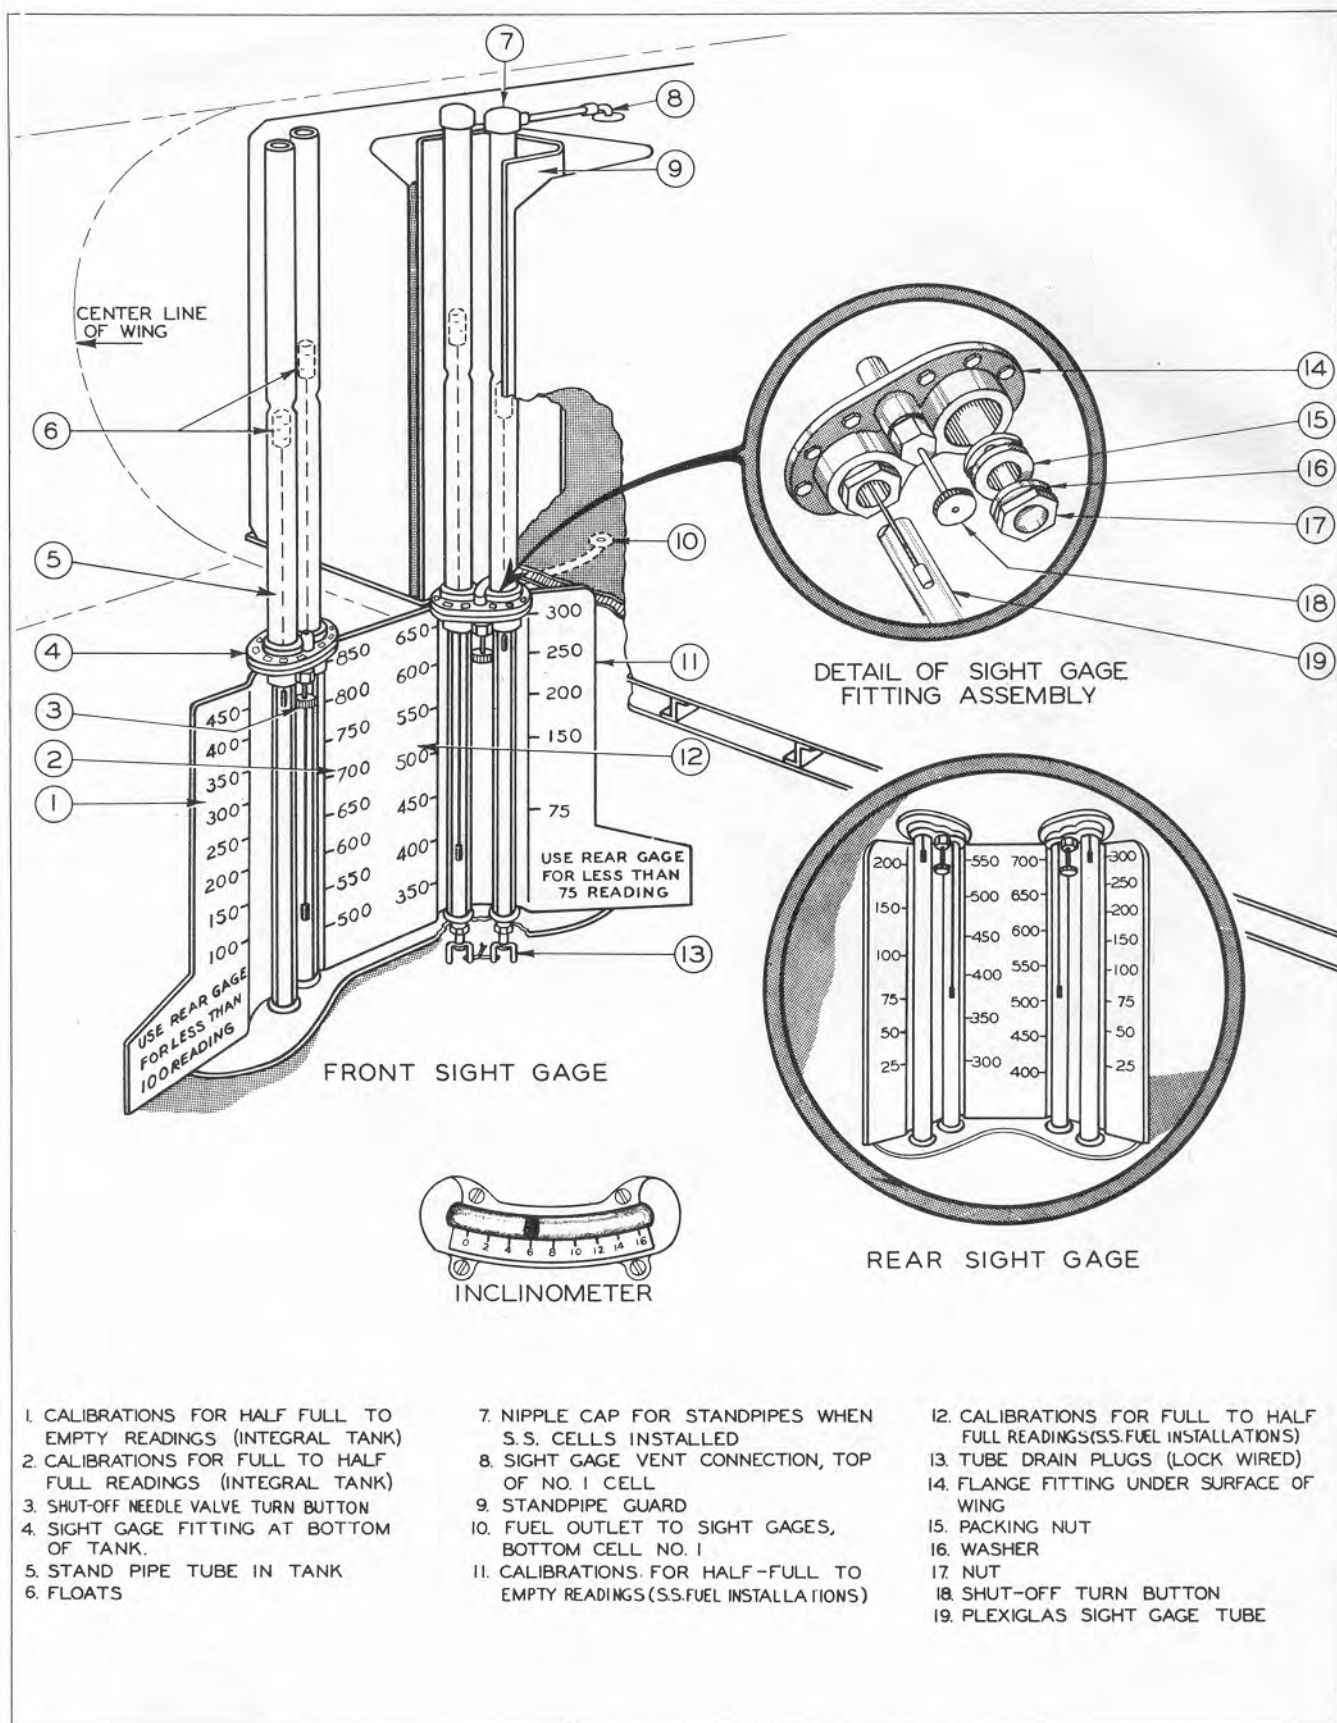

Figure 31—Fuel Sight Gauge
(12) FUEL SIGHT GAGES. (See figure 31.)—Fuel quantity is indicated by the two sets of sight gages. One pair is under the wing front spar, immediately aft of the engineer's instrument panel. The other pair is under the wing rear spar, aft of the engineer's seat. An inclinometer to guide the engineer in making corrections to the sight gage readings at different longitudinal attitudes of the airplane is located on the starboard side of the engineer's compartment.
(13) FUEL PRESSURE GAGES.—Fuel pressure is indicated by the fuel pressure gages which form parts of the two engine gage units on the engineer's instrument panel.